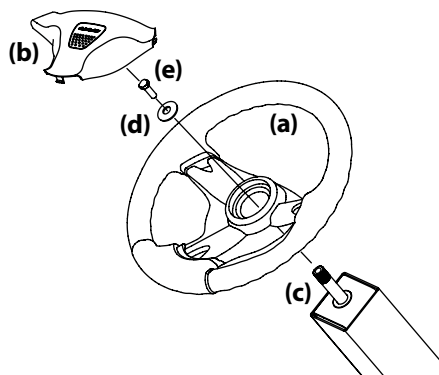

Figure 6
1. Remove the hardware (a) from beneath the steering wheel cover (b). Carefully pry off the steering wheel cover (b) to remove the hardware. See Figure 6.
2. With the wheels of the tractor pointing straight forward, place the steering wheel (a) over the steering shaft (c). See Figure 6.
3. Place the bellville washer (d) over the steering wheel (a) and secure with the hex screw (e). See Figure 6.
4. Place the steering wheel cover (b) over the center of the steering wheel (a) and push downward until it "clicks" into place. See Figure 6.